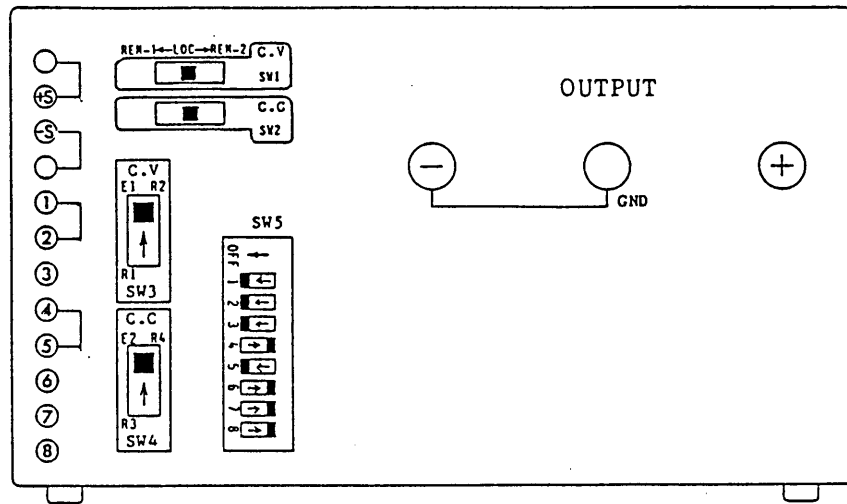

Figure 2-23. Typical Setting of Model Select Swiches and Output Terminal Jumpers
1. Confirm the mode switches and terminal jumpers of the rear panel to standard states as shown in Figure 2-23.